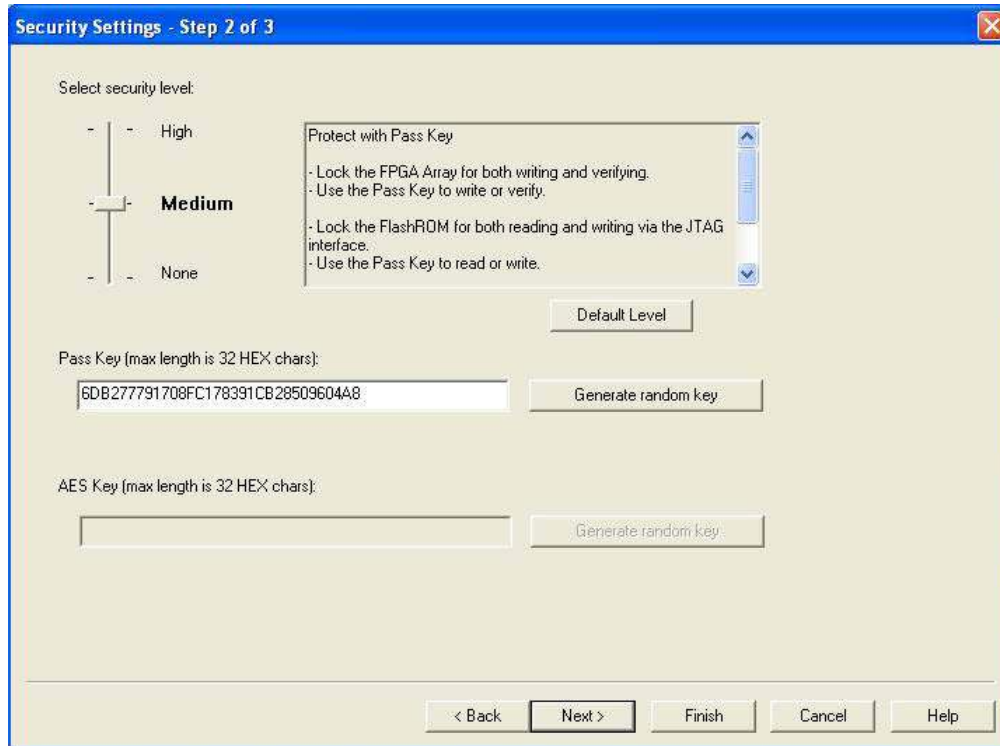

Figure 12-12 • Medium Security Level Selected for Low Power Flash Devices
2. Choose the appropriate security level setting and enter a FlashLock Pass Key. The default is the **Medium** security level (Figure 12-12). Click **Next**.